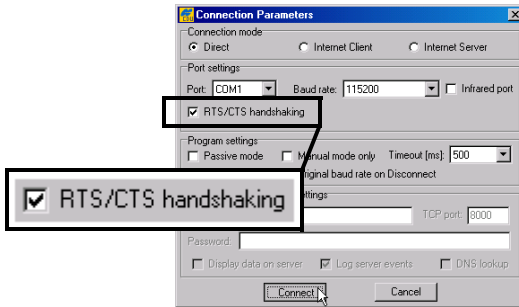

Figure 3-15. Connection Parameters – MINTER Settings
3. On the **Connection Parameters** dialog box, enable RTS/CTS handshaking (Figure 3-15).